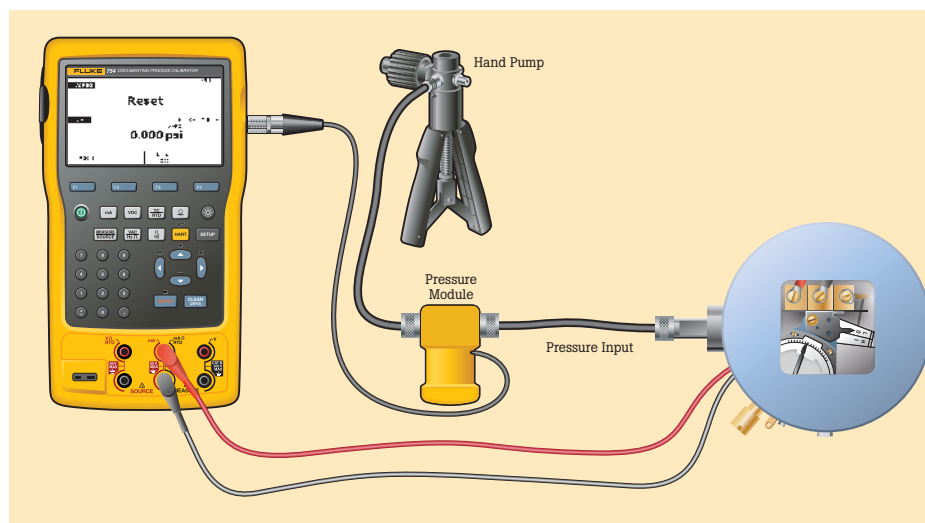
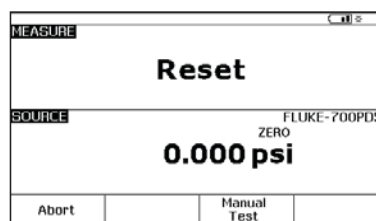

Figure 1.
Figure 4.
- Connect a pump to the pneumatic input of the switch with a tee connection into the pressure module, like the Fluke 750P Series pictured in Figure 1.
When all connections are complete it should resemble Figure 1.
The test can now be performed by selecting the MANUAL TEST softkey (Figure 4). Using the hand pump connected (Figure 1), vary the pressure applied to the pressure switch and pressure module slowly, back and forth across the